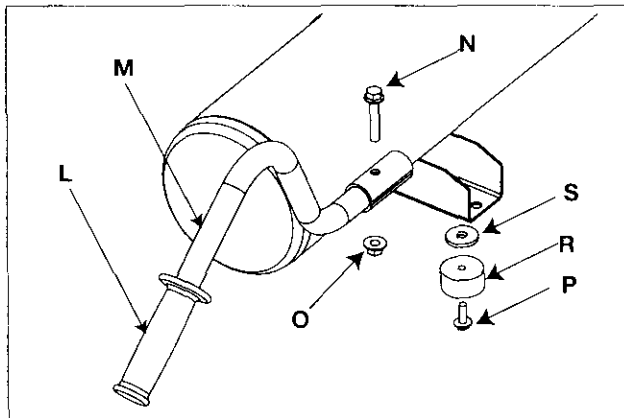

Fig. 2
1. Push rubber handle grips (L), onto handle tubes (M). Seat firmly. Use a twisting motion to ease assembly. See Fig. 2.
2. Position one handle and grip assembly into clamp on left side of tank assembly, as shown in Fig. 2. Align hole in handle with hole in clamp. Insert bolt (N) through the hole (in clamp and handle). Thread nut (O) onto bolt. Using two 1/2" wrenches (not furnished) tighten nut securely.
- A. Place spacer (S) on flat side of a rubber foot (R). Place spacer and rubber foot against compressor frame as shown in Figure 2.
- C. Insert one of the 1/4"-20 x 3/4" bolts (P), from the hardware package, and using a 3/8" socket wrench (not furnished) tighten firmly.